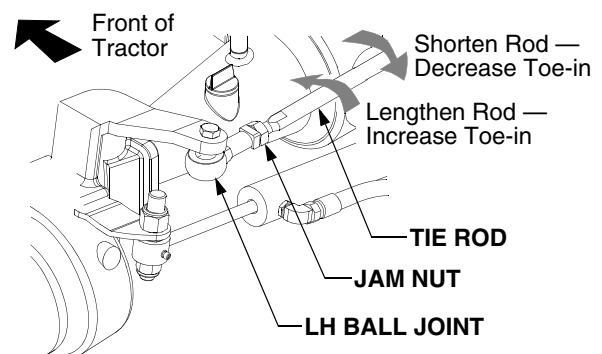

Figure 31
- Loosen the jam nuts at both the LH and RH ball joints. Refer to Figure 31.
Rearward to shorten the tie rod and decrease the toe-in. See Figure 31.
Forward to lengthen the tie rod and increase the toe-in. See Figure 31.